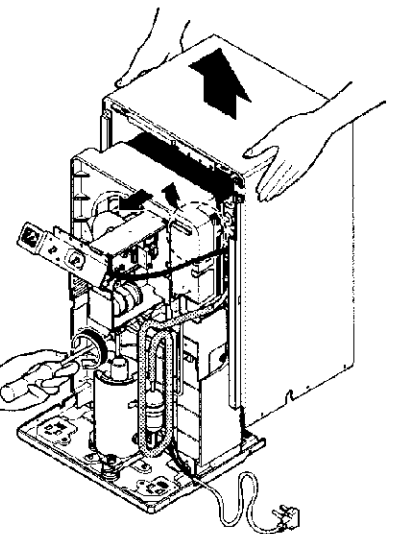

Figure 8
4. Lift the Cabinet from the base. (See Figure 8.)
6. Remove the screw that holds the control box, and unhook the control box from the shroud. (See Figure 8.)